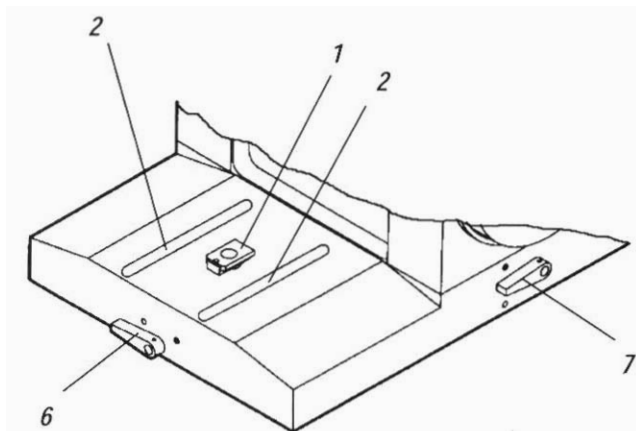
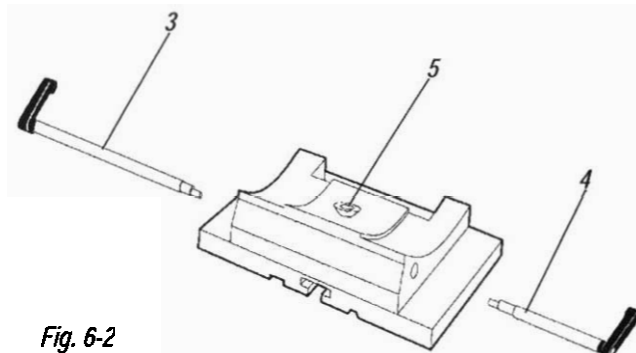

Fig. 6-1
Fig. 6-2
- T piece (1) on the microtome base plate.
- Guides (2) on the microtome base plate.
- Clamping levers (3) and (4) on the right and left side of the blade holder base.
- T piece (5) on the blade holder base.
When reassembling the blade holder base assembly (Fig. 6-2), be certain that the long clamping lever (3) is inserted into the opening on the left side of the base assembly and secured. The shorter clamping lever (4) should be inserted on the right side and secured.
The base assembly should be carefully guided onto the guide rails (Fig. 6-1, item 2) and secured by moving the clamping lever (6) to the right. Verify that the blade holder base is positioned so that the thick edge is facing away from the instrument as shown in Fig. 6-2.